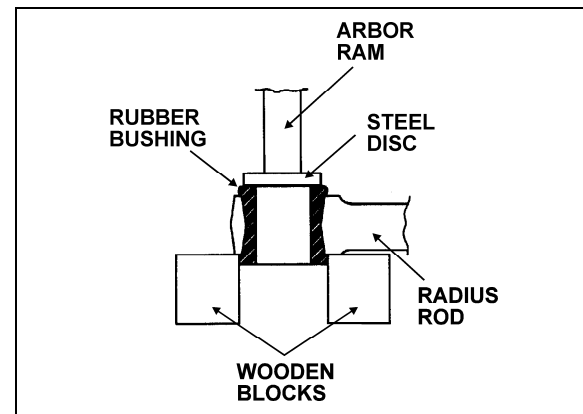

FIGURE 6: RADIUS ROD BUSHING REMOVAL
1. Safely support the radius rod as shown in figure 6.